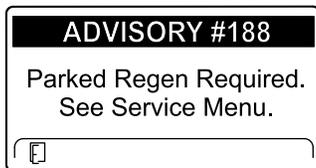

Figure 47
- Parked regeneration required ADVISORY #188 (Figure 47)